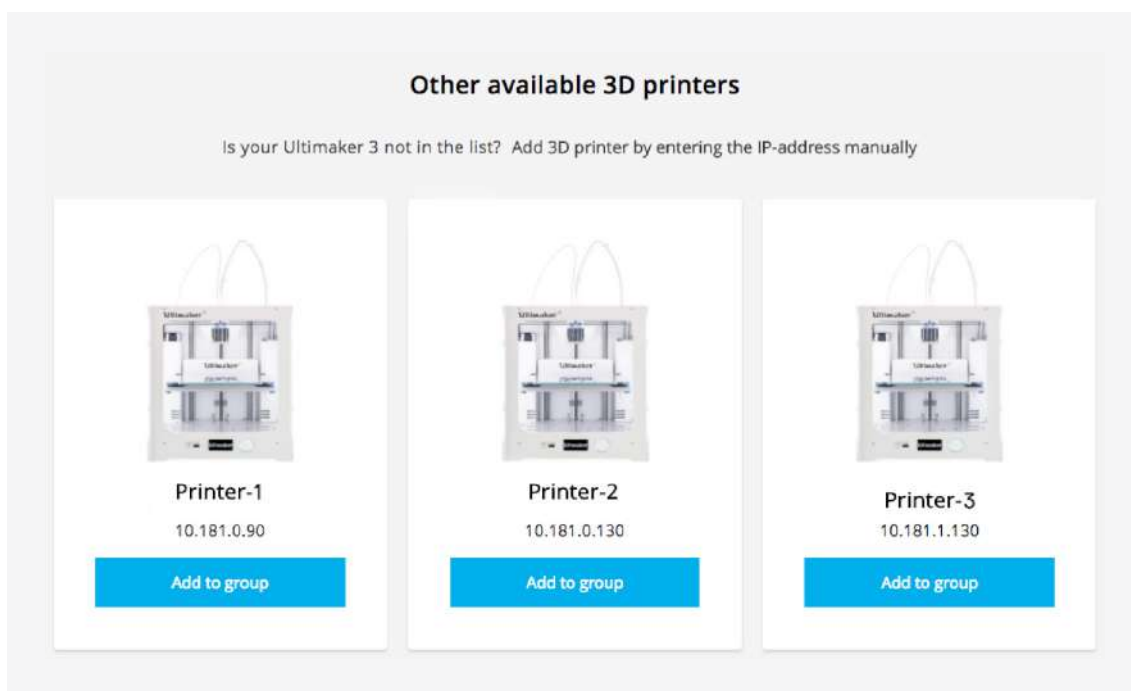

Fig. 2 - Other available 3D printers tab
3. Check if your printer is present in Other available 3D printers (Fig. 2).